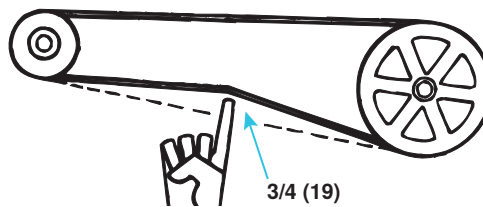

Figure 34. Checking Belt Tension
- Proper belt tension is important to the long life of the belt and motor. A loose belt will cause wear and slippage. Too much tension will cause excessive motor and blower bearing wear. Check belt tension as shown in Figure 34.
- If the belt cannot be depressed 3/4 inches (19 mm), as shown in Figure 34, adjust the belt tension as follows: